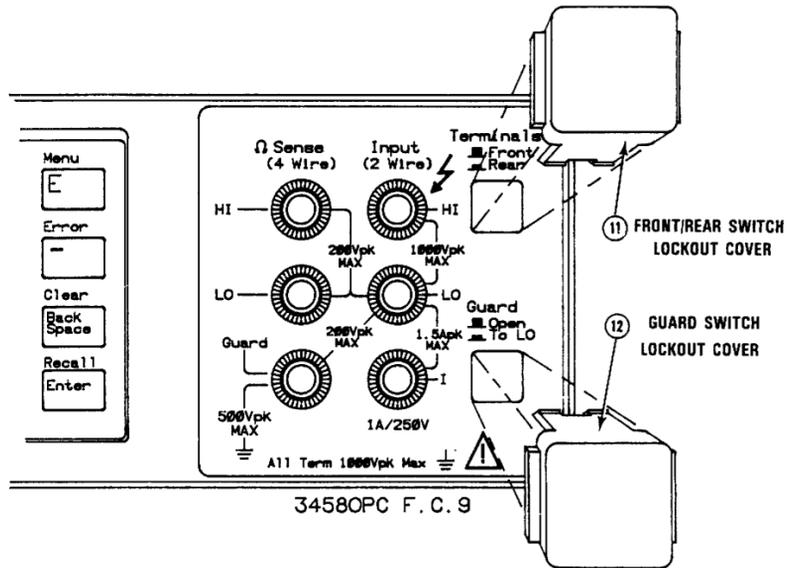

Figure C-9 Switch covers installation
- 1 Refer to Figure C-9. Turn the instrument so its front faces you.
- 3 Locate the little square covers that came in the switch lockout kit, as shown in Figure C-9.